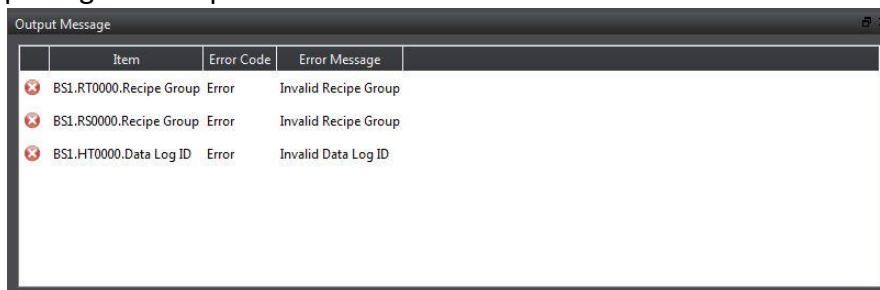

Figure 393 Compilation process illustration
If any errors were generated during the compilation, it will be displayed in the **Output Message**. The error information will include the (1) component, (2) success or error code and (3) compile message as shown in Figure 393. Users can click on the message once to move to the object or double-click on the message to open the error screen and focus on the component setting screen of the error,